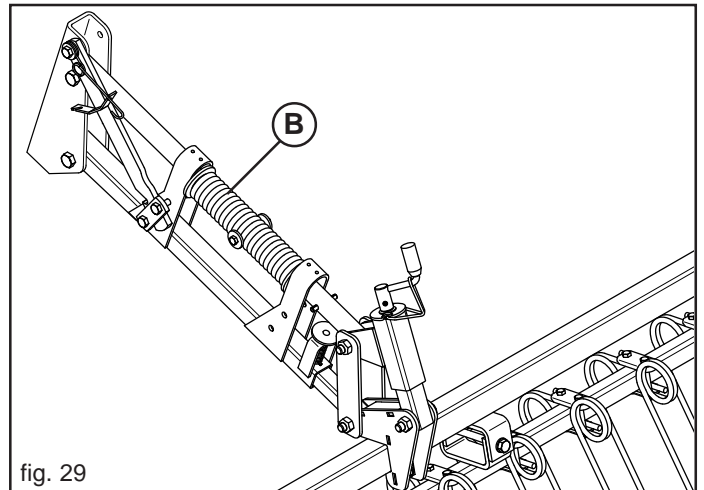

fig. 29
The working pressure of the spring-loaded teeth can be varied by rotating the spring (B) located on the upper parallel arm (Fig. 29).